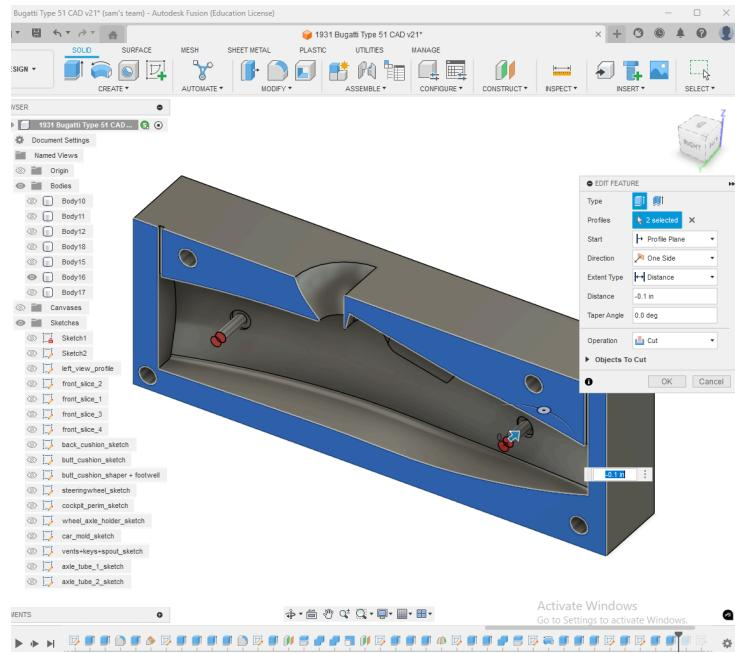

Fig. 37: Shortening of the wheel axle tube support rods
10. Additionally, shorten the pins that support the wheel axle holder slightly (by about 0.1", which works well for this application). This helps prevent issues associated with printing long, thin, tall structures. Apply this adjustment to both sides of the mold, as shown in **Fig. 37.**